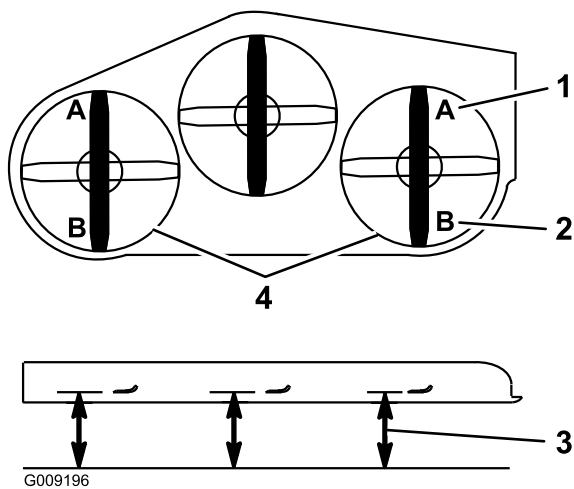

Figure 90
9. On both sides of the deck, measure from the level surface to the front tip of the blade (Position A) as shown in Figure 90.
15. On both sides of the deck, measure from the level surface to the back tip of the blade (position B) as shown in Figure 90.